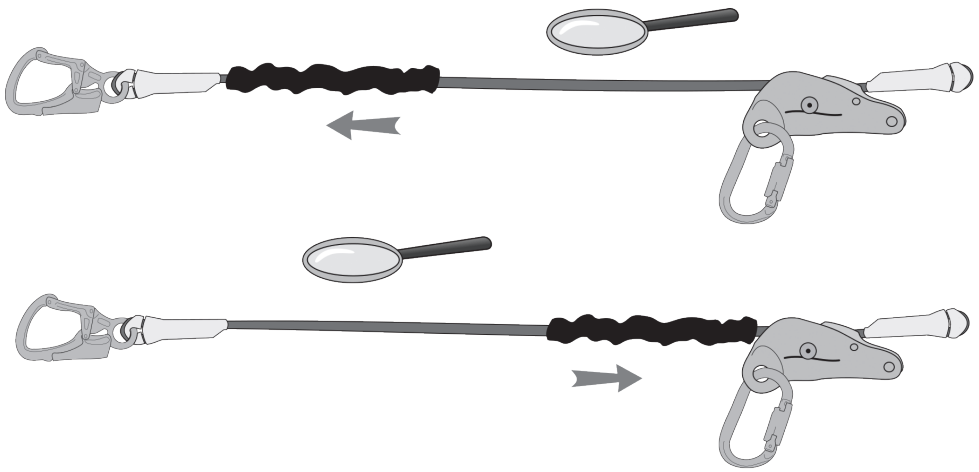

Fig.6
- ✓ Lack of distortion of thimbles. **See figure 6.**